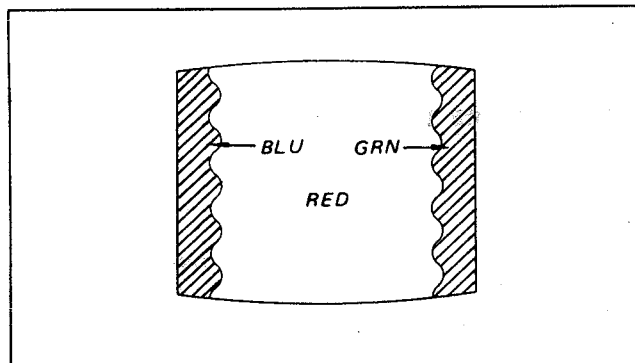

Fig. 3
5. Disconnect leads ⑤ and ⑥ on the C board.
6. Adjust purity control to center vertical red band as shown in Fig. 3.